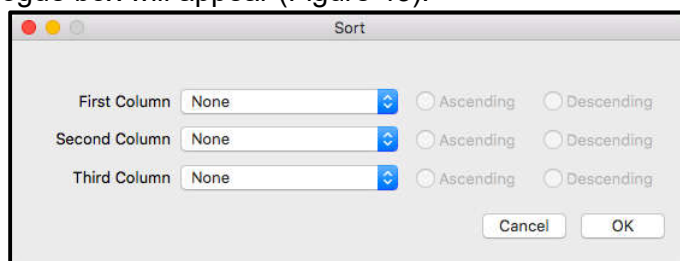

Figure 43
2) The following dialogue box will appear (Figure 43):